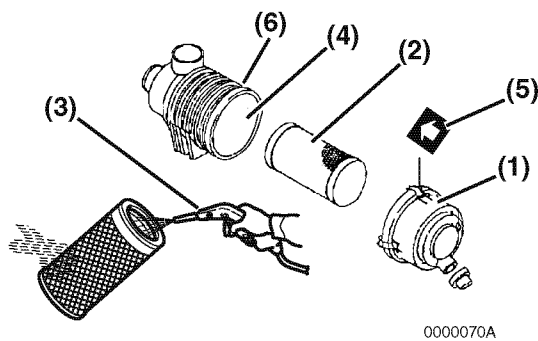
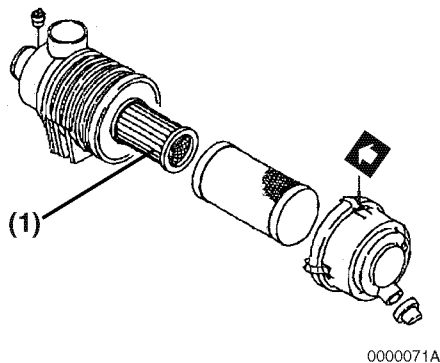

Figure 5-7
Figure 5-8
Note that a typical air cleaner is shown in **Figure 5-7** and **Figure 5-8** for illustrative purposes only.
1. Unlatch and remove the air cleaner cover (**Figure 5-7, (1)**).
2. Remove the element (**Figure 5-7, (2)**) (outer element if equipped with two elements).
3. Blow air (**Figure 5-7, (3)**) through the element from the inside out using 42–71 psi (0.29–0.49MPa, 3.0–5.0kgf/cm²) compressed air to remove the particulates. Use the lowest possible air pressure to remove the dust without damaging the element.
If the air cleaner is equipped with a double element, *only remove and replace the inner element (Figure 5-8, (1)) if the engine lacks power or the dust indicator actuates (if equipped)*. This is in addition to replacing the outer element.
6. Install the element into the air cleaner case (**Figure 5-7, (4)**).
7. Install the air cleaner cover making sure you match the arrow (**Figure 5-7, (5)**) on the cover with the arrow on the case (**Figure 5-7, (6)**).